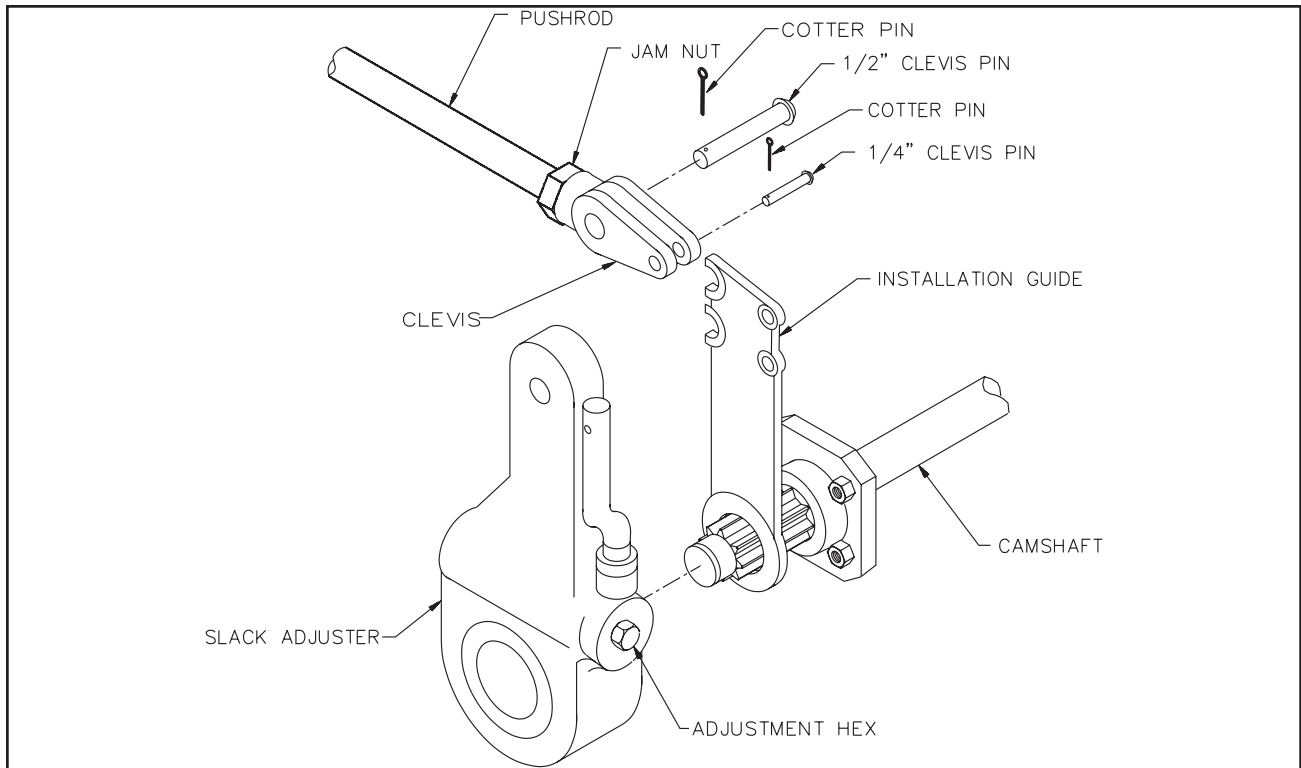

Figure 4-16 Slack Adjuster
4. Disconnect the slack adjuster from the connecting rod by removing the clevis pin (**See Figure 4-16**).
4. Remount the brake chamber on the axle brackets and reconnect the air service hoses and the slack adjuster connecting rod (**See Figure 4-16**).
a. Operational Check (See Figure 4-16)
b. Replacing Slack Adjuster (See Figure 4-16)